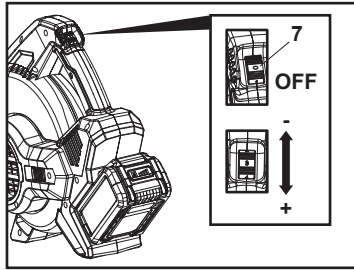

Fig. 10
1. Switch the product on: Turn the on/off switch / speed dial (7) downward to display the “1” positon.
2. Continue to turn on/off switch / speed dial (7) downward to increase the maximum speed (Fig. 10).
**NOTE:** Limit the maximum speed using the speed dial (7). The speed is continuously adjustable with the following levels:
3. Switch the product off: Turn the on/off switch / speed dial (7) upward to display the “0” positon.